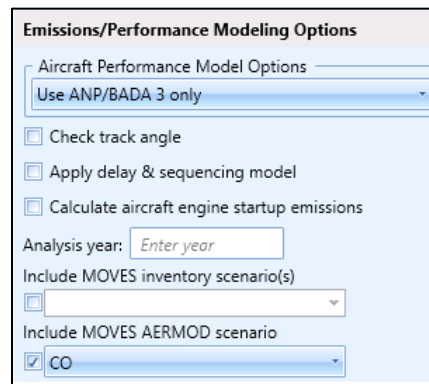

Figure 9-9 Emissions/Performance Modeling Options
3. In the *Define Metric Results* wizard, *Set Processing Options* step, check the *Include MOVES AERMOD scenario* checkbox and use the drop-down list to select a MOVES scenario (Figure 9-9). The list will only include MOVES AERMOD scenarios with a pollutant type that matches that of the metric result.